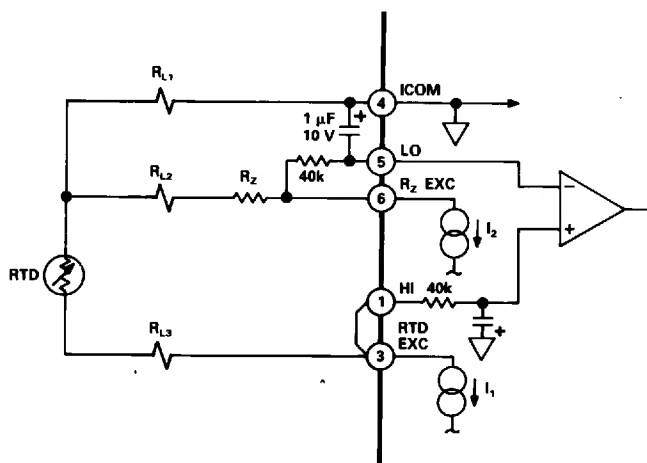

Figure 2. 3-Wire Compensation
**3-Wire Compensation:** The 1B41 accomplishes 3-wire compensation by using matched current sources on both RTD EXC (Pin 3) and  $R_Z$  EXC (Pin 6). Figure 2 shows lead wires with resistances of  $R_{L1}$ ,  $R_{L2}$  and  $R_{L3}$ . The following equation describes the error voltage caused by lead resistance and the current source mismatch.